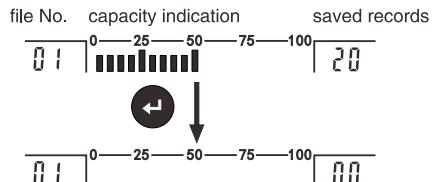

Figure 3-1-2 File deletion process
b. The deletion process is dynamically displayed in the status area and right and left reading areas. (As figure 3-1-2)